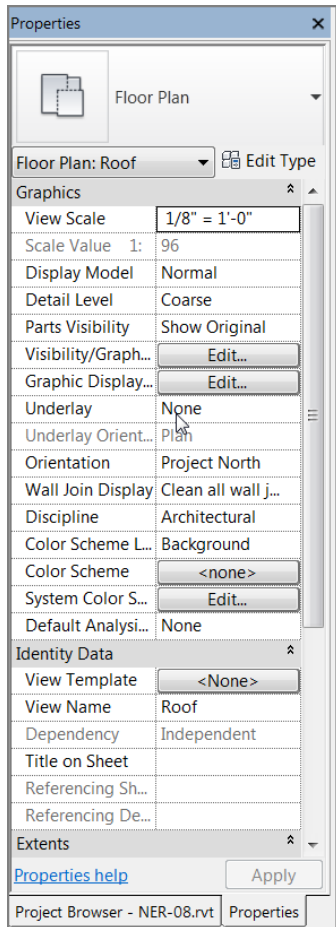

FIGURE 7.1: Changing the view's Underlay to None
3. In the view Properties, find the Underlay row and select None from the menu, as shown in Figure 7.1.